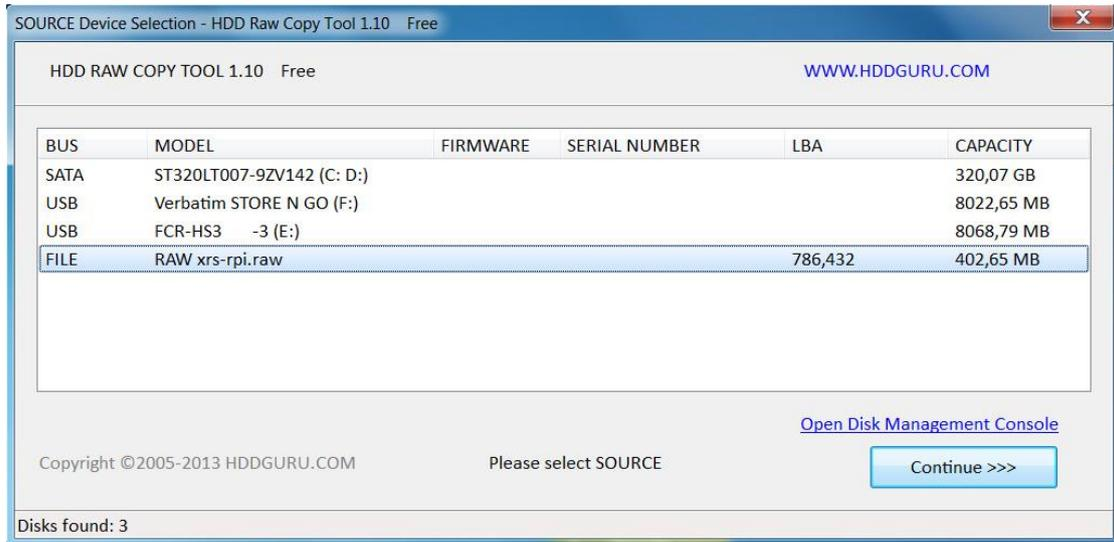

Figure 3. HDD Raw Copy Tool
4. Use the HDD Raw Copy Tool to copy the unzipped disk image (`xrs-rpi.raw` or `xr7-frs-eval.raw`) to a micro SD card. Use the disk image file as the source and the micro SD card as the target. Be careful not to overwrite any of your hard drives! See Figure 3.